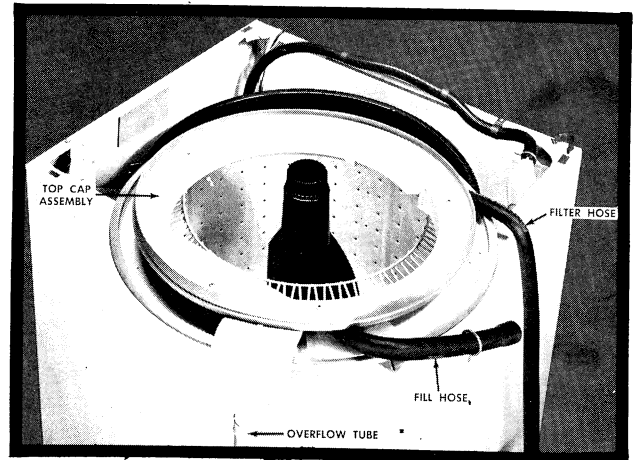

Figure 51
- Lift top cap straight up far enough to clear overflow hose, *Figure 51*.